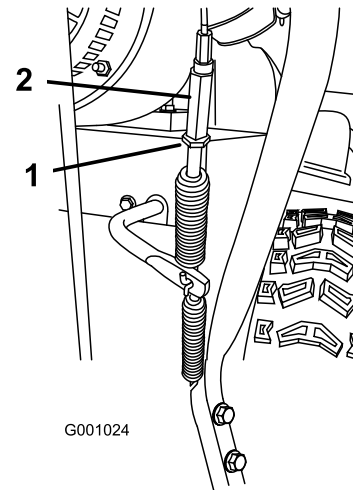

Figure 43
5. Loosen the jam nut (Figure 43).
6. Loosen or tighten the turnbuckle that adjusts the tension on the cable (Figure 43).